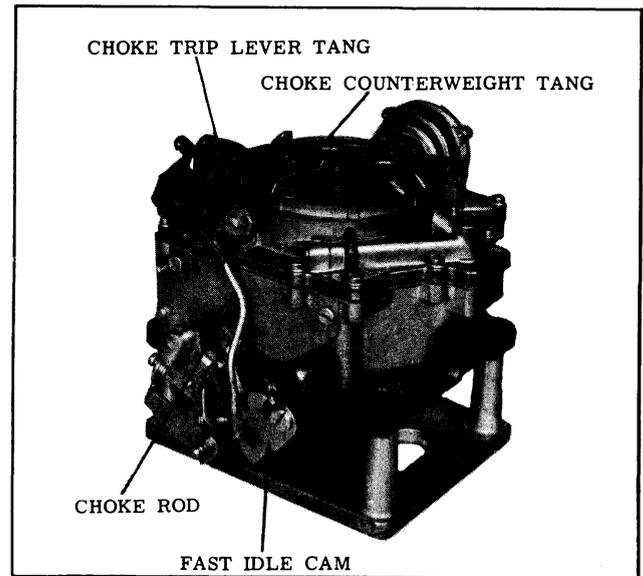

Fig. 8-104 Installing Choke Counterweight
9. Position the choke counterweight over the choke shaft. Do not install the choke trip lever. (See Fig. 8-104)
11. Position the choke trip lever over the end of choke shaft. Be sure the small tab of the trip lever is above the choke counterweight tang. (See Fig. 8-104) Tighten securely.